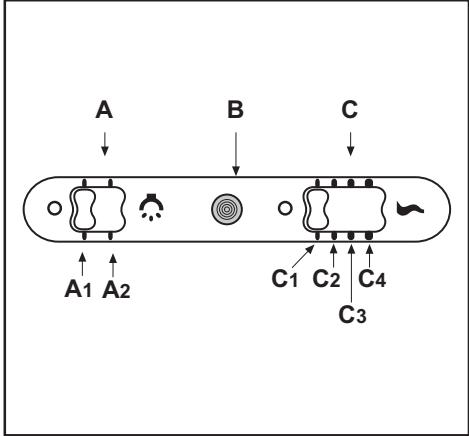

Fig.8
- COMMANDS:** (Fig.8) SLIDER the key symbols are explained below: